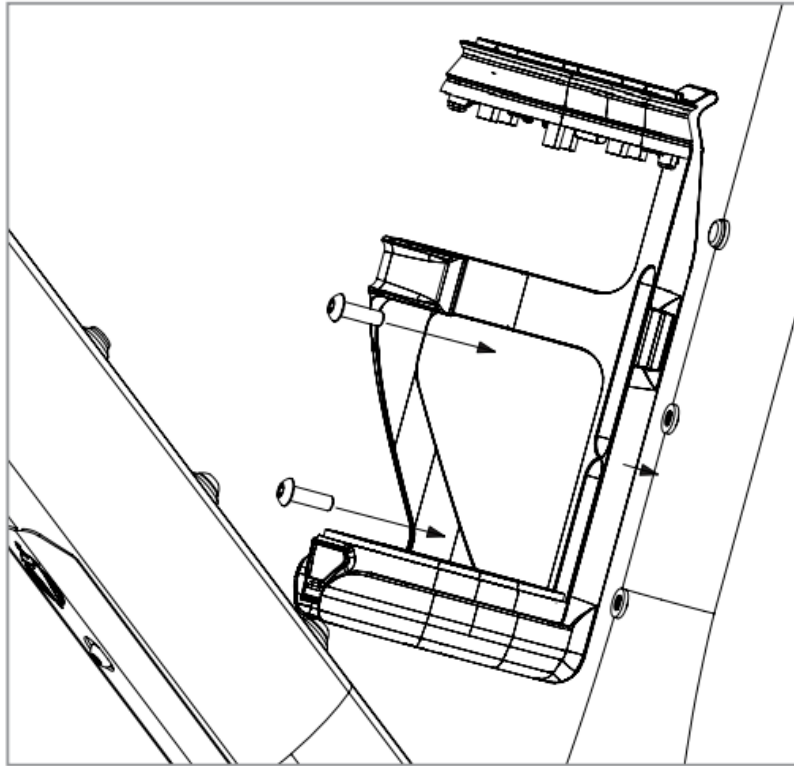

Figure 14
3. Attach the Range Extender holder to the frame and reinstall the bolts (Figure 14).